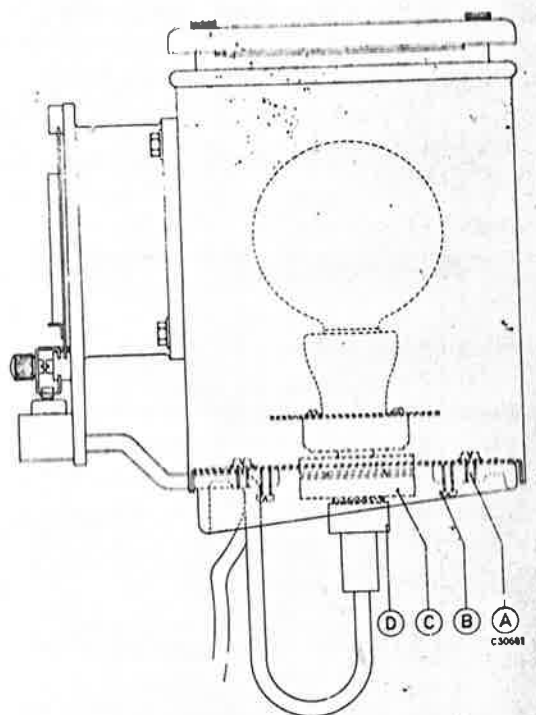

Fig. 7
4. Unscrew the large knurled ring "C" (fig. 7) and push the lamp backwards and forwards and to the left and to the right until maximum brilliance on the screen is obtained. Then tighten the ring.
5. Unscrew the small ring "D" (fig. 7) and move the lamp upwards and downwards so that neither shadows nor dark spots are visible on the screen. Then also tighten this ring.